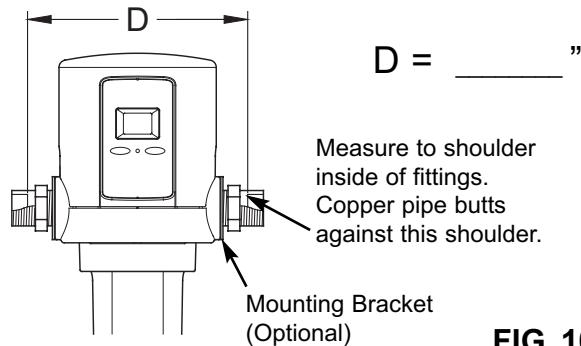

FIG. 10
3. Remove the nut and brass ferrule from both compression fittings and set aside. Using a tape measure or ruler, measure the distance "D" as shown in Figure 10. Mark this dimension at right so you do not forget.